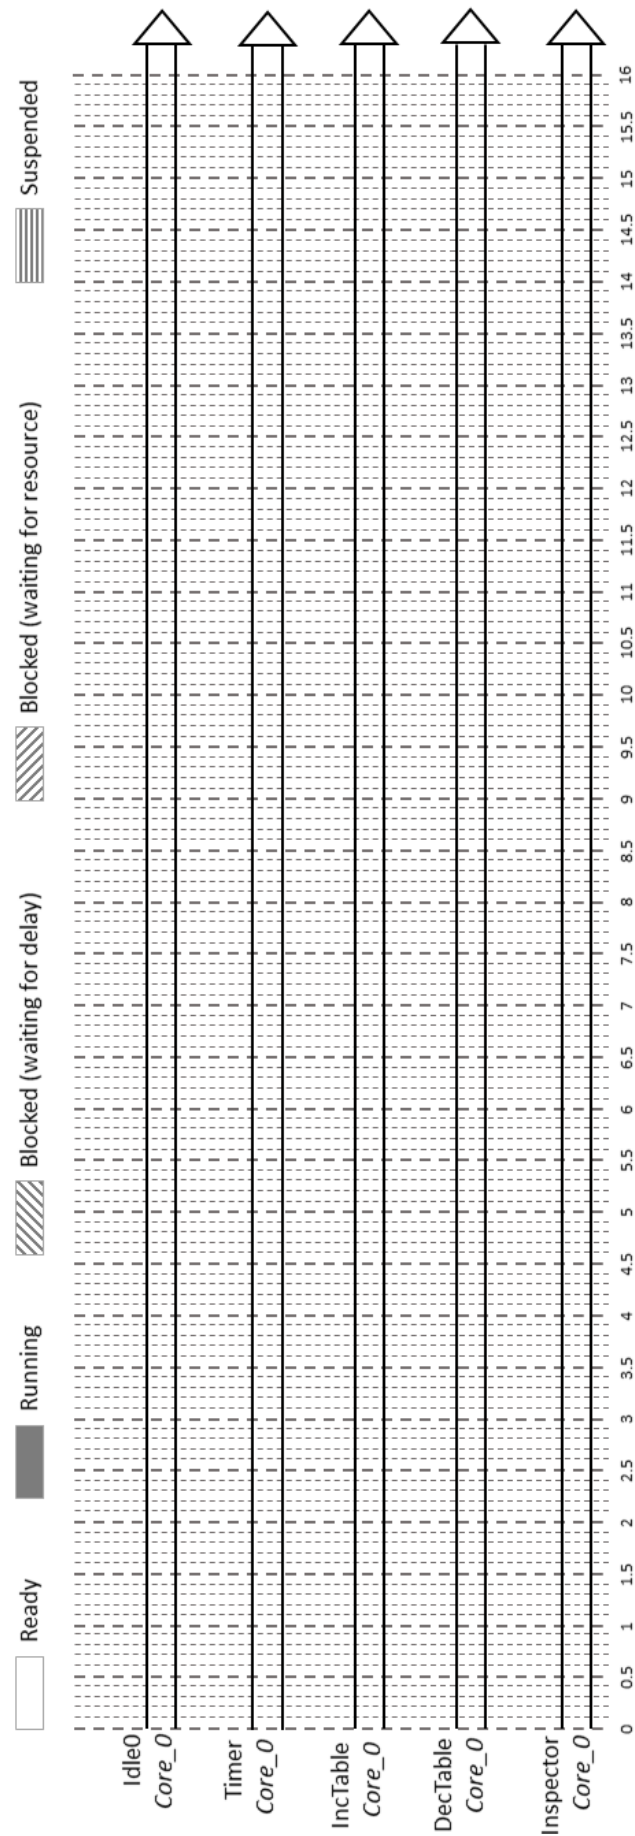

FIGURE 3.6 – Program with Task inspector.
7. Run the program, copy the console until 40 ticks, trace in the figure 3.6 the behavior of the 3 tasks until 40 ticks and explain the behavior.